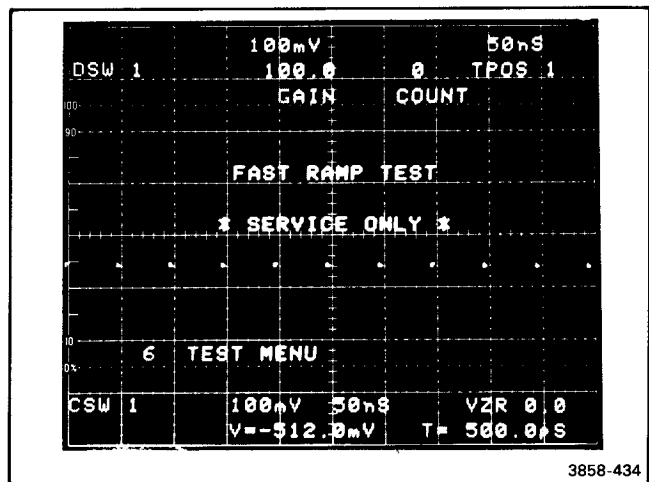

Figure 4-11. Gain Count readout.
- g. EXAMINE—Gain (see Fig. 4-11) is within limits of 99.7 to 100.3.